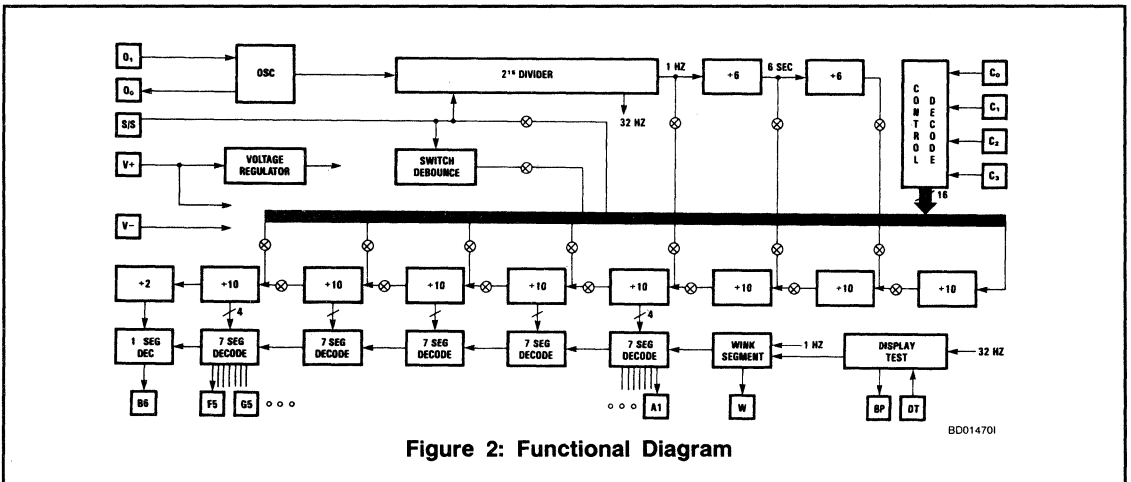

Figure 2: Functional Diagram
**ELECTRICAL CHARACTERISTICS** ( $V_{DD} = 1.55V$ ,  $V_{SS} = 0V$ ,  $f_{osc} = 32,768Hz$ , circuit in Figure 2,  $T_A = 25^\circ C$ , unless otherwise stated. Numbers are in absolute values.)